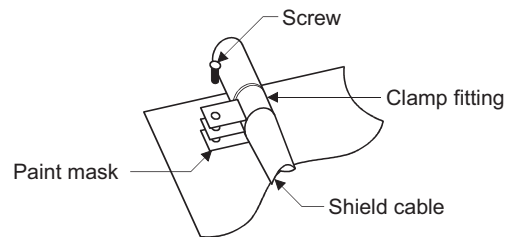

Figure 9.12 Shield grounding (Correct example)
- A clamp can be used as shown in Figure 9.12.